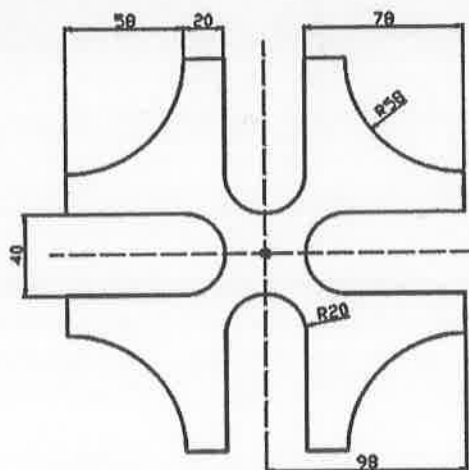

Fig. 2 : CNC program profile
- (b) Write a slot mill CNC program for the given profile shown in Fig. 2 taking suitable tool diameter.